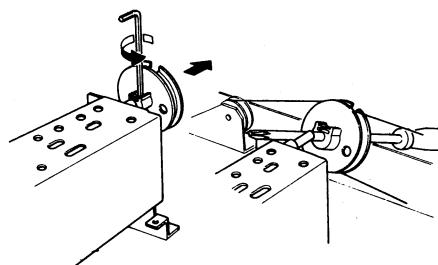

Fig. 2
- In order to prevent the thread from working free from the dial drum when circuit board removed, loosen the mounting screw for the dial drum with a hexagonal wrench (1.5 mm), insert it into the driver as shown in the figure and tighten temporarily. (Refer to Fig. 2)